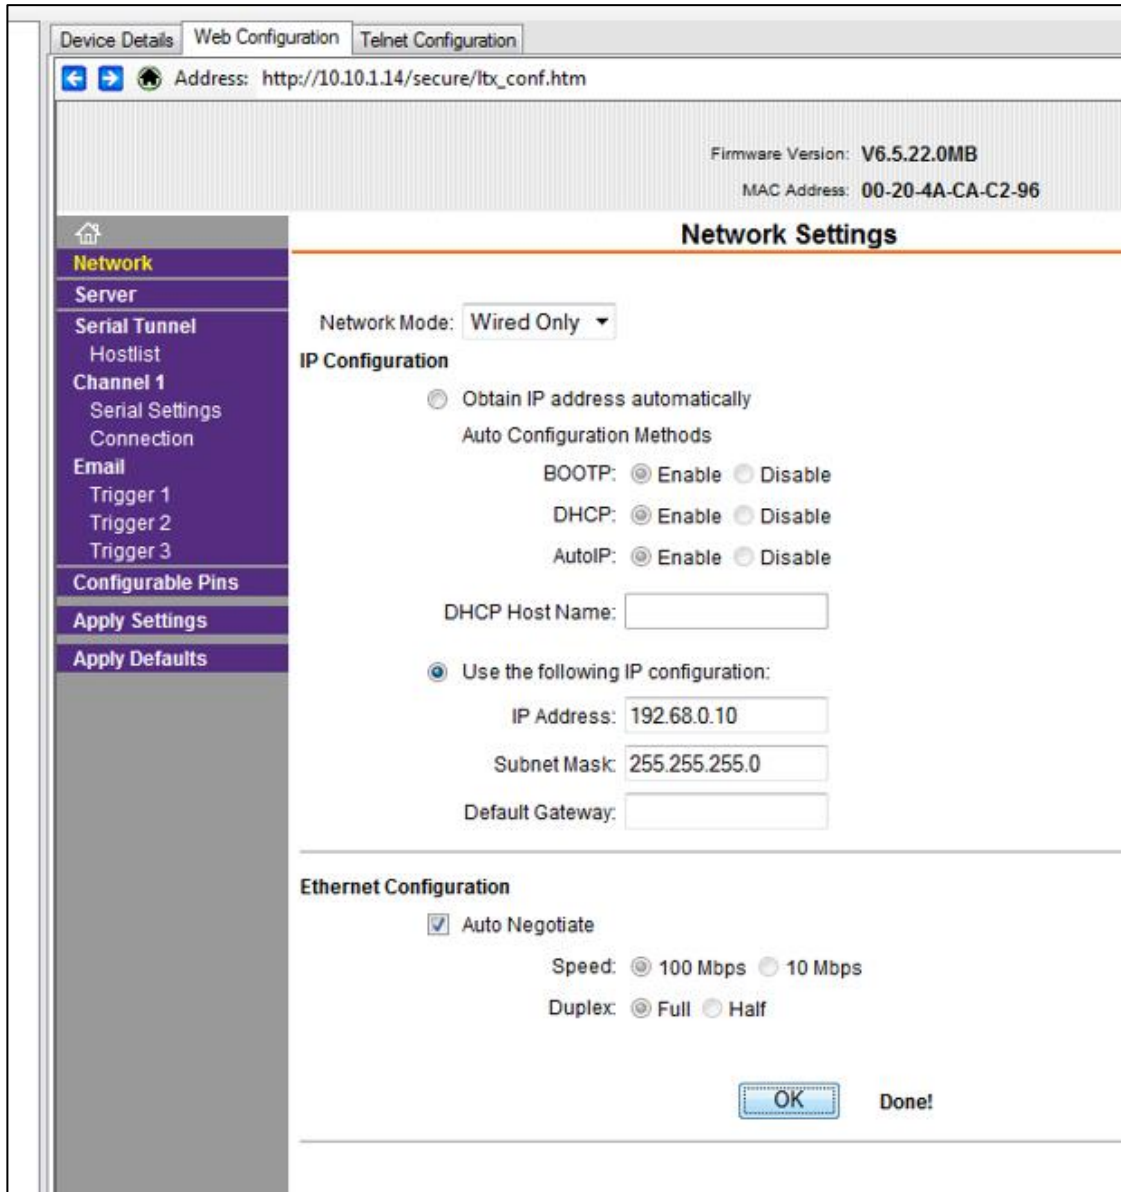

Figure 4-9 Network Settings
- Press the OK button to save the settings. Network Settings will display Done! Figure 4-9.